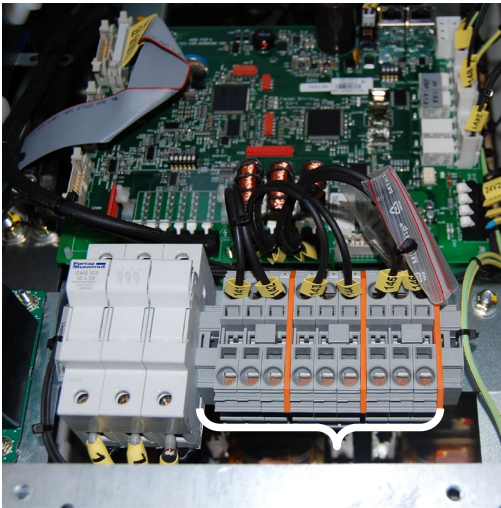

Figure 34: Location of the CT connection terminal X21 in the PQFS
- The CT connection terminal X21 is located at the middle of the top plate of the filter (Cf. Figure 34).